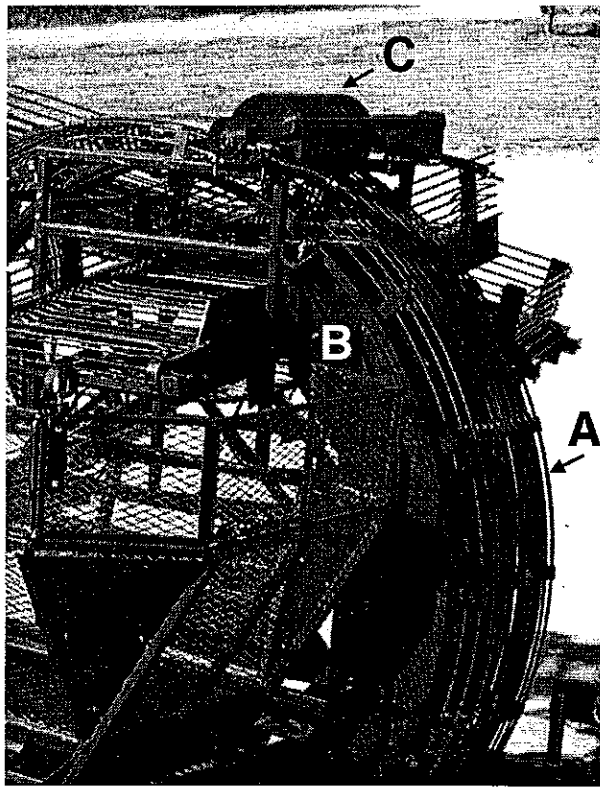

Figure 43. Wheel Elevator Details
The wheel elevator (Figure 43-A) revolves at approximately 11 RPM at 1000 PTO RPM. The wheel elevator carries the beets up to and deposits them in the tank elevator. The retainer (B) holds the beets in the wheel until they get to the top and fall onto the tank elevator. The stripper (C) clears the wheel elevator of any rocks, mud, or beets that get between the wheel rods.